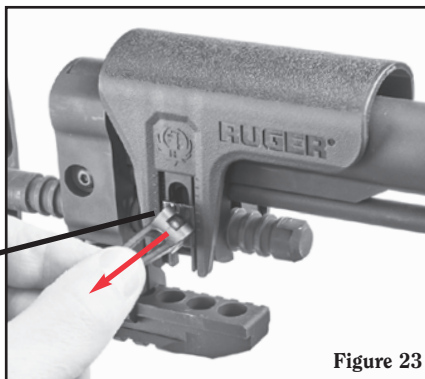

Figure 23
- Next, remove the cam lever, spring, and washer from the other side of the cheek piece (see Figure 23).